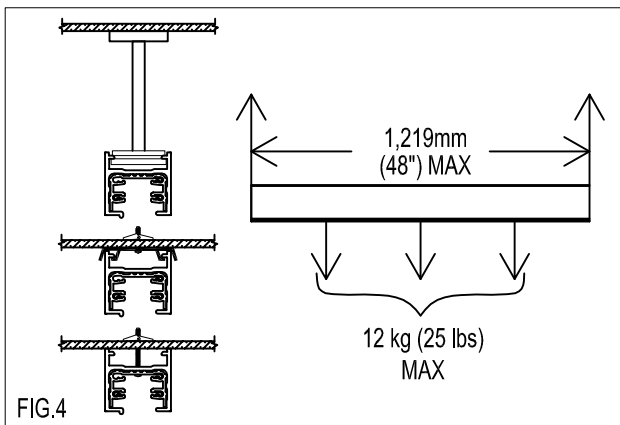

FIG.4
1. See Fig 4. for Maximum load limit recommendations.